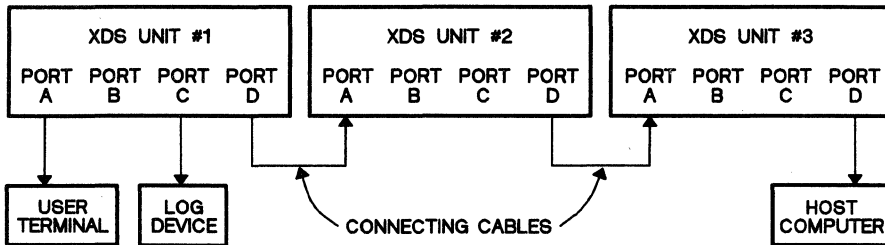

Figure 8-1. Three XDS Units in a Multiprocessing Chain
Figure 8-1 shows a three-emulator chain.
- 1) Physically connect emulators as shown in Figure 8-1 and detailed in Section 8.7.1.